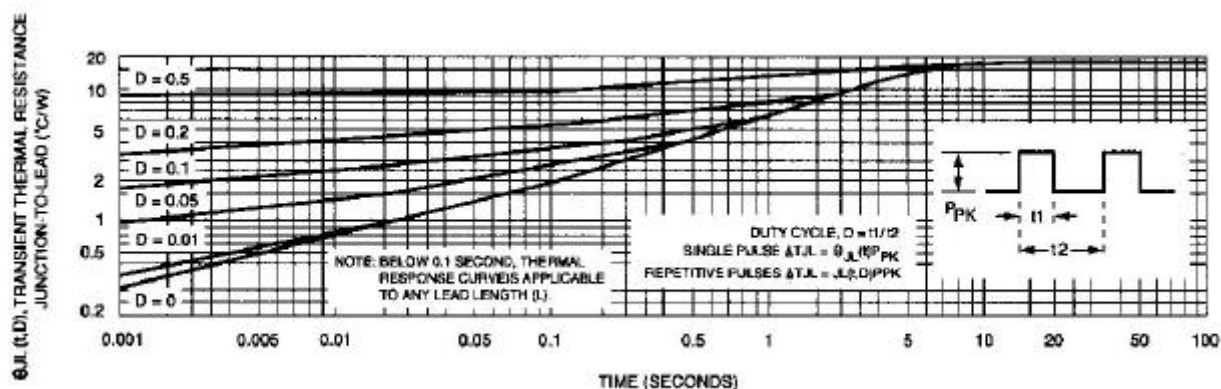
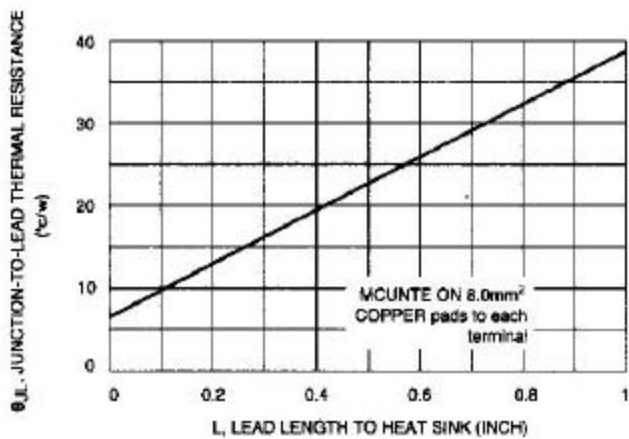
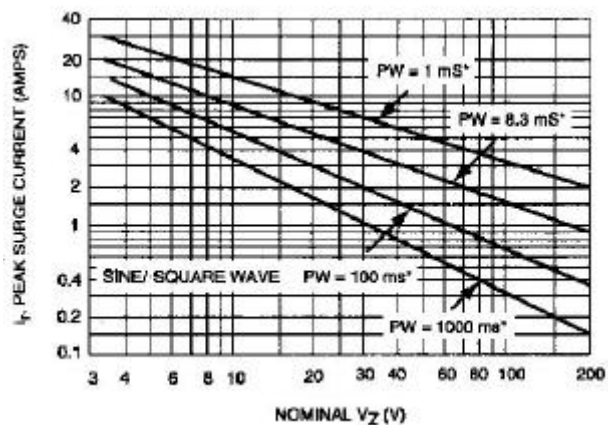
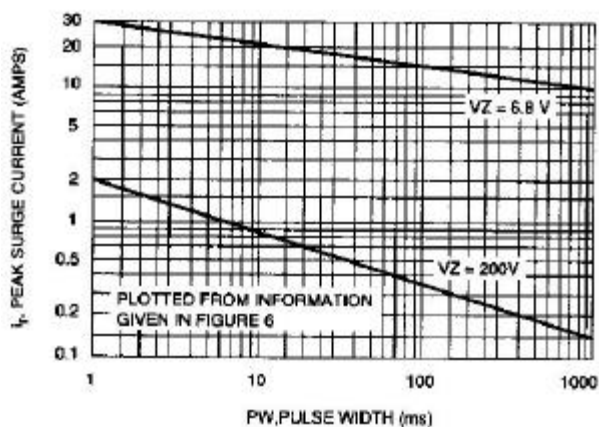

Fig. 3-TYPICAL THERMAL RESPONSE
Fig. 4-TYPICAL THERMAL RESISTANCE
Fig. 5-MAXIMUM NON-REPETITIVE SURGE CURRENT
Fig. 6-PEAK SURGE CURRENT VERSUS PULSE
3. SURGE CURRENT (I_r) - Surge current is specified as the maximum allowable peak, non-recurrent square-wave current with a pulse width, PW, of 8.3 ms. The data given in Figure 5 may be used to find the maximum surge current for a quare wave of any pulse width between 1 ms and 1000ms by plotting the applicable points on logarithmic paper. Examples of this, using the 6.8v and 200V zeners, are shown in Figure 6. Mounting contact located as specified in Note 3. ($T_A=25$).
T_{JL} is the increase in junction temperature above the lead temperature and may be found from Figure 3 for a train of power pulses or from Figure 4 for dc power.
Data of Figure 3 should not be used to compute surge capability. Surge limitations are given in Figure 5. They are lower than would be expected by considering only junction temperature, as current crowding effects cause temperatures to be extremely high in small spots resulting in device degradation should the limits of Figure 5 be exceeded.